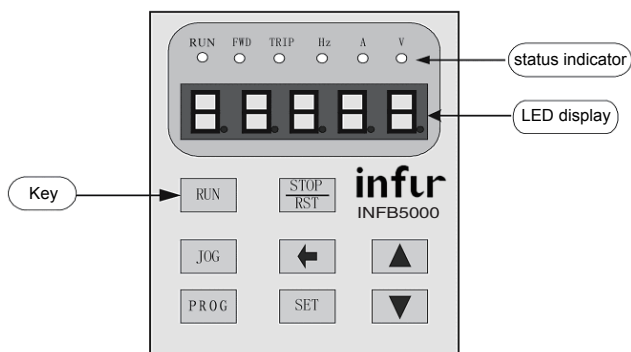

Figure 4–1
4.1. Panel Structure Description. Shown as figure 4–1